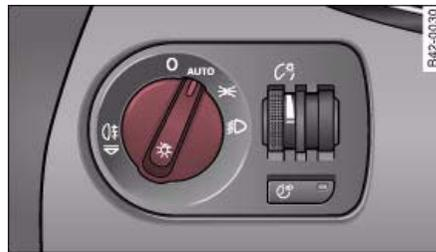

Fig. 47 Detail of the dashboard: Light switch
- Turn the light switch ⇒ fig. 47 to the **AUTO** position.